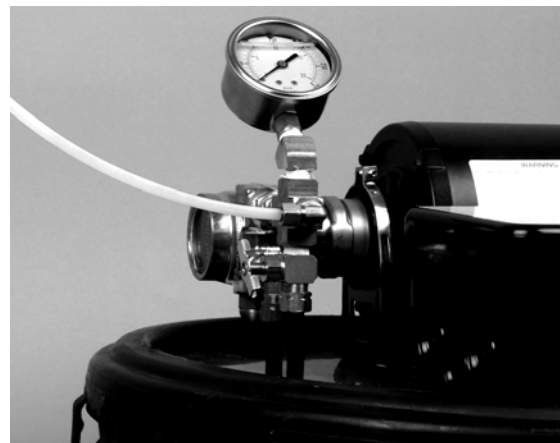

Figure 3 – Pressure Gauge Mounted Into Brass Cross Assembly
17. After all the spray nozzles have been installed, run one end of the tubing back to the drum and insert it into the male elbow of the brass cross assembly (figure 3). Tighten nut snug to a $\frac{1}{4}$ turn with wrench. Leave slack in line to allow easy shifting of lid to add insecticide.